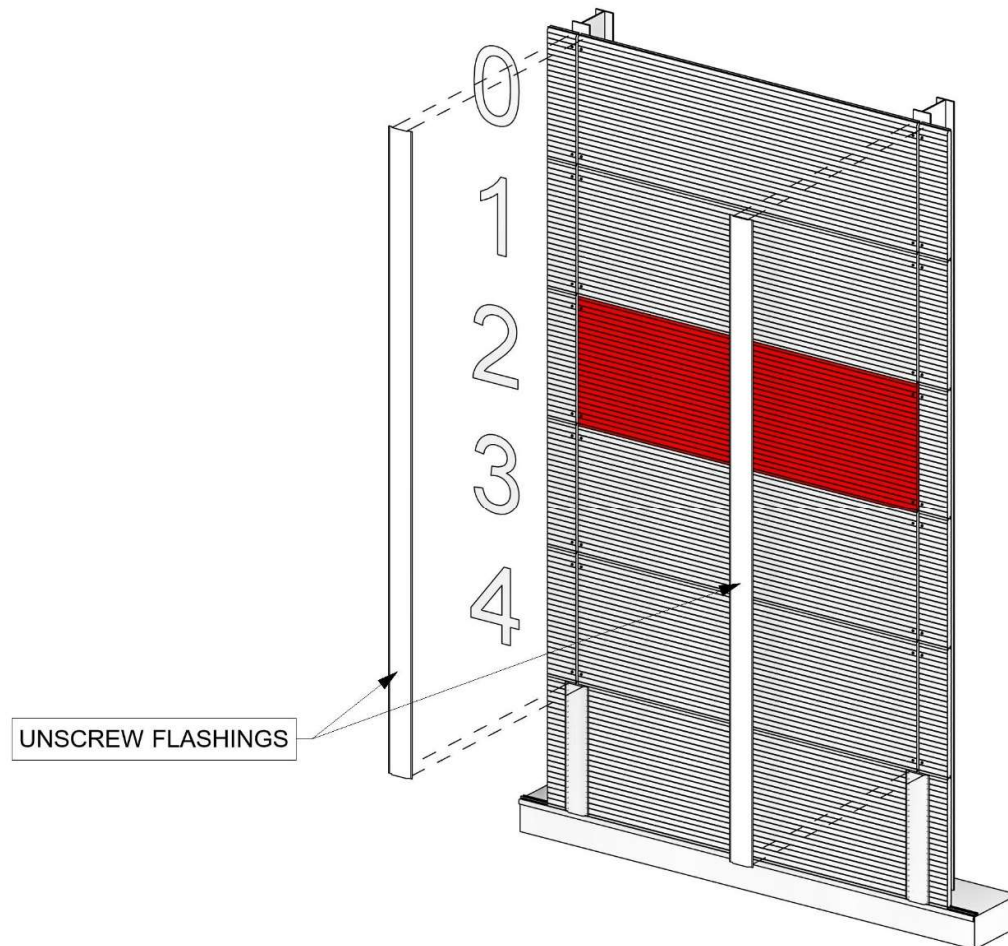

Fig. 13.2
STEP 1. Unscrew flashings that are covering the panels 0, 1, 2, 3 and 4 (Figure 13.2).